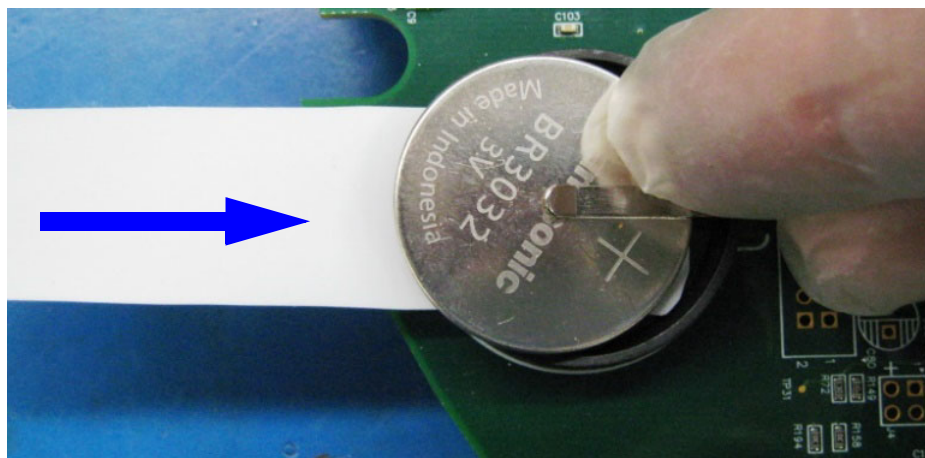

Figure 3-14: Positioning the Battery Insertion Tool
8. To remove the battery, (Manufacturer Part #: Panasonic Battery BR 3032 3V Lithium Coin Size Battery), first slide the battery insertion tool under the battery between the negative pole of the battery and the battery holder. See Figure 3-14.